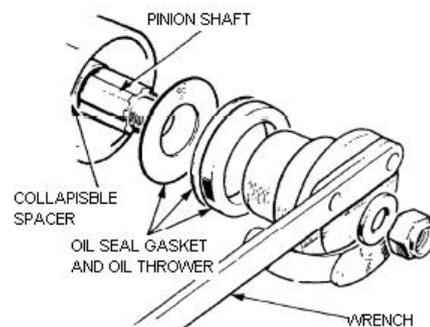

Figure 207 Removing the Pinion Flange and Shaft
- l. Using the wrench (Table 3, Serial 47) to prevent the pinion flange from rotating, remove the locknut and flat washer (Figure 207). Discard the locknut.